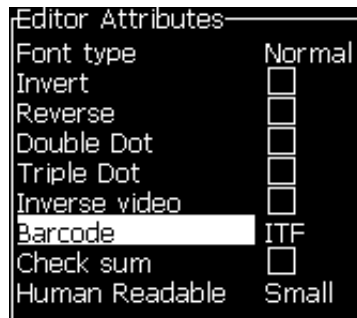

Figure 5-55: Select the Type of Barcode
- 2 Press the *F3* key or *ALT+E* and select *In-line Attributes* to open the *Editor Attributes* screen (see Figure 5-55 on page 5-62).